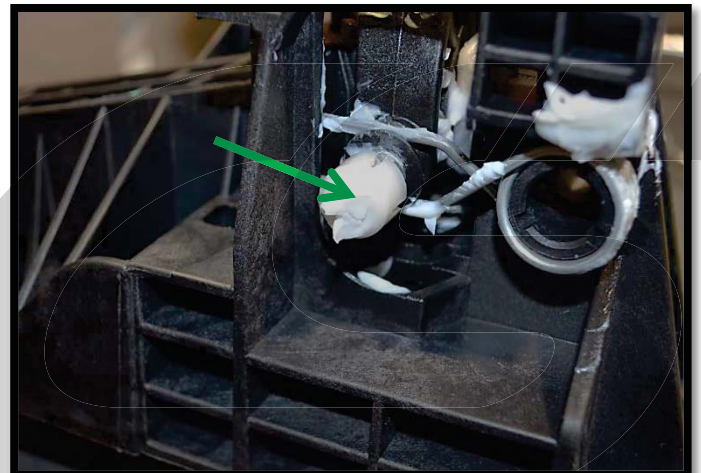

Figure 2c
- c) **Remove the white plastic cap from the ball stud** (green arrow in Figure 2c).
- d) **Remove the spring from the shifter assembly** (Figure 2c).
- c) **Remove the white plastic cap from the ball stud (green arrow in Figure 2c).**
- d) **Remove the spring (Figure 2c) from the shifter assembly.**